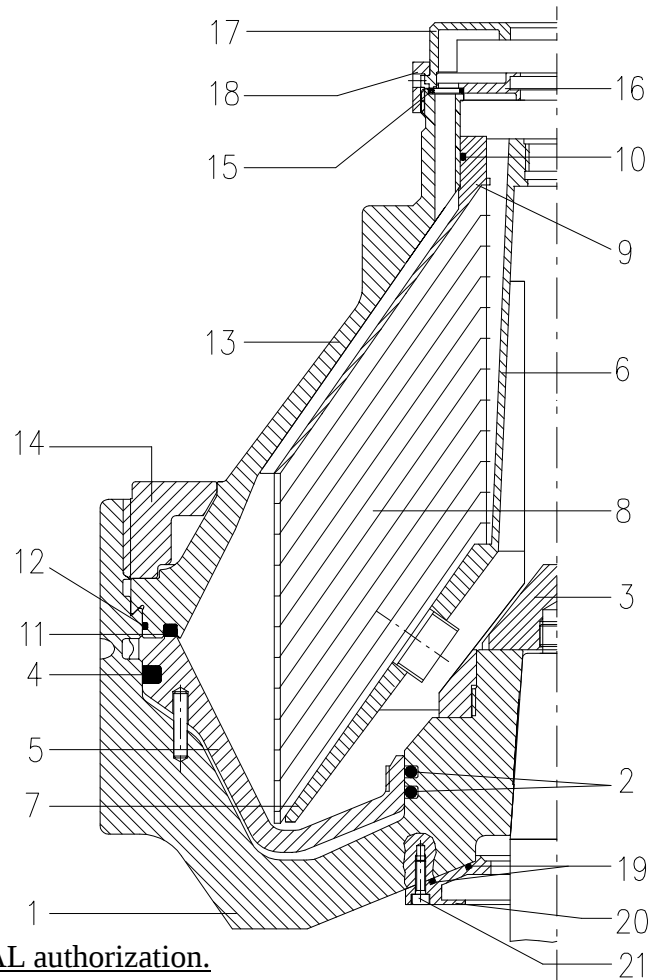

Figure 6.1
The bowl is supplied separately from the rest of the machine, so before setting at work it must be dismantled and assembled on vertical shaft in the frame. The bowl, rotating at high speed, is subjected at high stress that could compromise the operating safety of clarifier in case the bowl has been improperly assembled and cleaned. In *Figure 6.1* are shown all the main pieces of the bowl.
- Every part must be correctly positioned; almost all bowl parts have an angular position fixed by pins or feather keys - except for threaded parts and gaskets (Figure 6.1 - parts 2, 3, 4, 10, 11, 12, 14, 18).
- bottom disk (7 - Fig. 6.1) that distinguishes itself by having spacers on both surfaces.
- the intermediate disks (8);